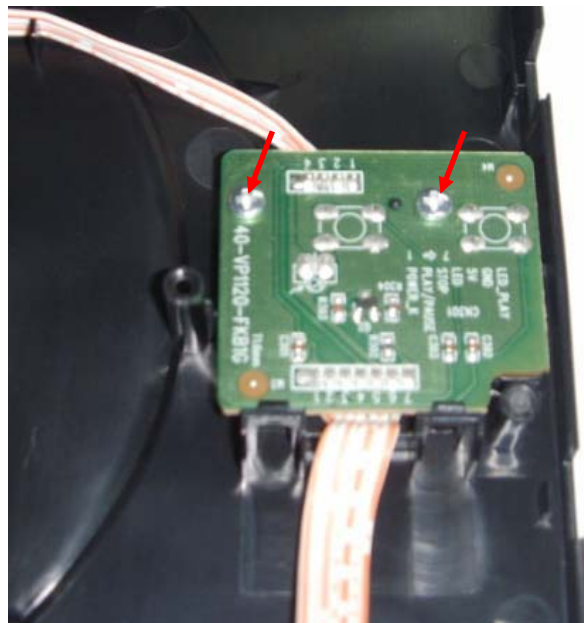

Figure 10
**Step6:** Dismantling the front board: disconnect the 2 screws, then can remove the front board. (Figure10)